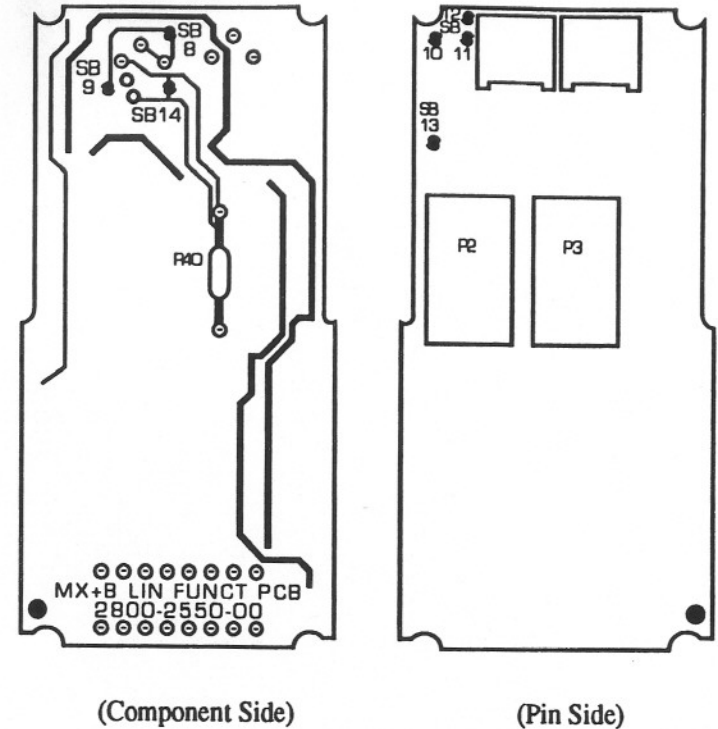

Figure 3. Linearization Board Component layout
- With the Offset value calculated from step 2, determine the Zero Offset Configuration and the appropriate settings of jumpers SB10 through SB13. Refer to Table 2. The location of the jumpers is shown in Figure 3.
- With the Gain value calculated from step 4, determine the Gain Setting Configuration and the appropriate settings of jumpers SB8, SB9, SB14, and resistor R40. Refer to Table 3. The location of these components is shown in Figure 3.